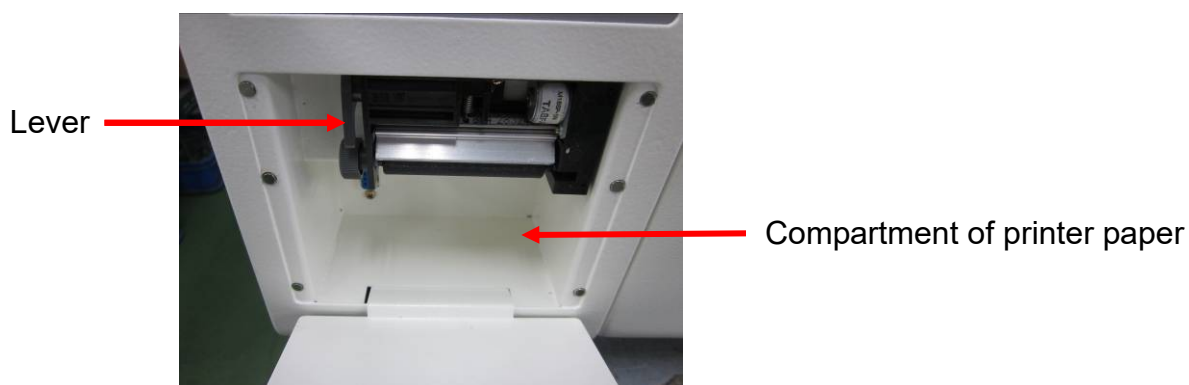

Figure 161
- C. Take out the empty roll from the compartment (See Figure 161), and replace with a new one. In order to print correctly, please load the thermal paper according to the instruction of the thermal paper for the printing side.